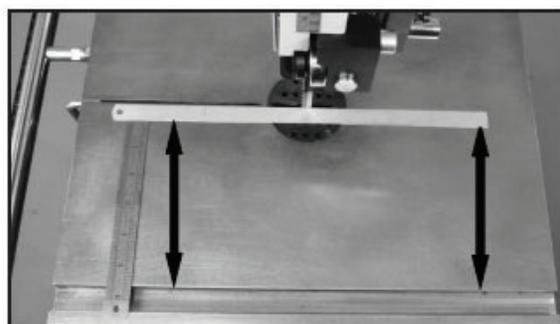

FIGURE 4
**NOTE:** Before finally secured in position, the table can be slightly moved, left and right. Check to make sure that the table's miter gauge slot is parallel to the side of the saw blade. This will provide a true cut when ripping stock. Set a thin metal ruler against the side of the saw blade. Make sure that it is not touching the saw's teeth, which can angle the ruler. Measure the distance from one end of the ruler to the miter gauge slot. **Fig. 4.** Then measure the same distance from the other end of the ruler to the miter gauge slot. Compare these two measurements and angle the table as necessary until the distances are the same.